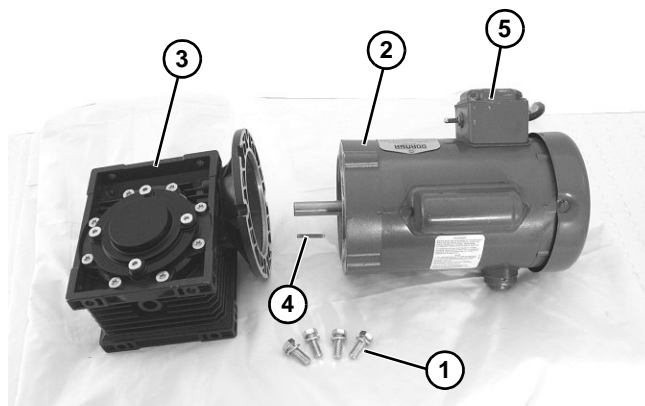

Figure 20
1. Remove four (4) screws (Figure 20, item 1). Detach motor (Figure 20, item 2) from gear reducer (Figure 20, item 3). Retain motor output shaft key (Figure 20, item 4).
2. With key (Figure 20, item 4) in keyway, slide motor (Figure 20, item 2) and gear reducer (Figure 20, item 3) together, noting where position of switch (Figure 20, item 5) will be during installation on conveyor.
3. Install screws (Figure 20, item 1) and tighten to 60 in-lb (7 Nm).